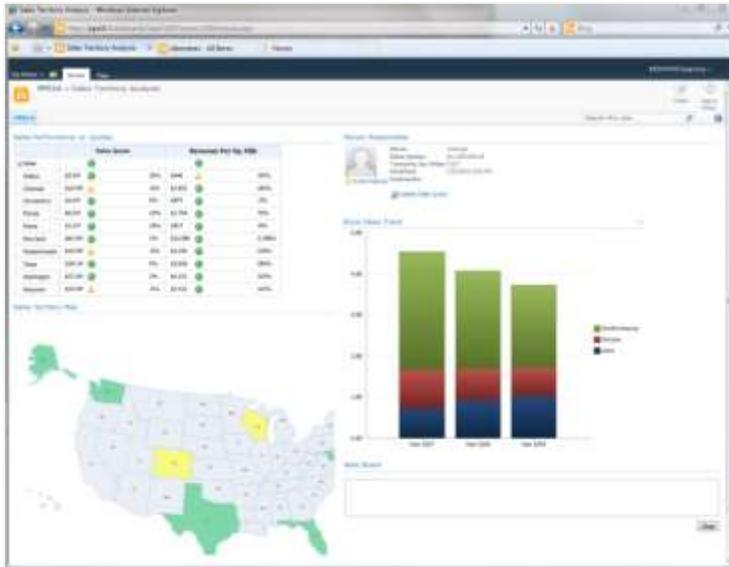

Figure 14: Dashboard in SharePoint Server Insights
- **Define and Measure Success:** SharePoint Server Insights provides interactive dashboards and scorecards that can help people to define and measure success: Key metrics can be matched to specific strategies and then shared, tracked, and discussed. Users can create meaningful visualizations that convey the right information the first time, aggregating content from multiple sources and displaying it in a web browser in an understandable and collaborate environment. Moreover, rich interactivity allows users to analyze up-to-the-minute information and work with data quickly and easily to identify key opportunities and trends (Figure 14).